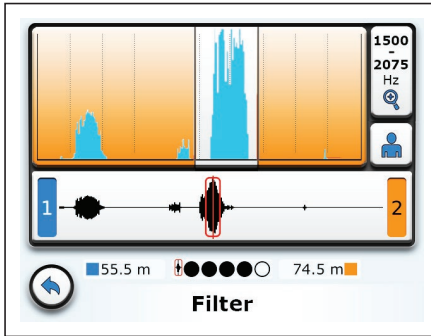

Fig. 26: **Filter** menu: After manual adjustment, the **Manual** symbol appears under the **Filter limits** button.
5. Tap **Back**. The receiver will return to the **Filter** menu. The **Manual** symbol is visible on the **Current filter** button (see fig. 26).